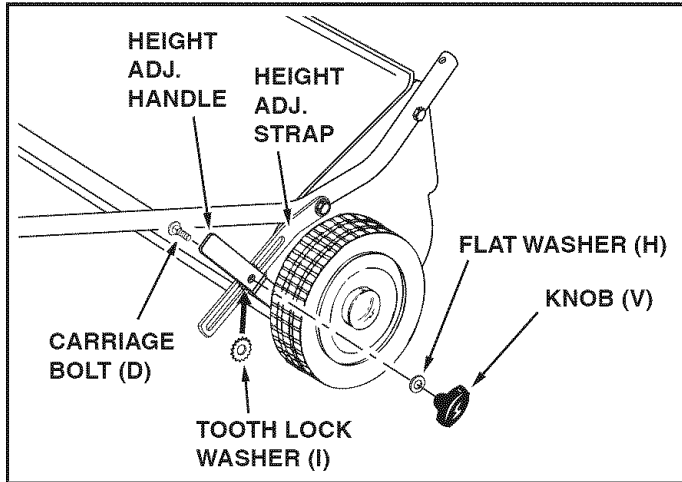

FIGURE 4
- Place the height adjustment strap to the **inside** of the height adjustment handle. Place the tooth-lock washer (I) **between** the height adjustment strap and the height adjustment handle. Insert the carriage bolt (D) through the strap, the tooth-lock washer and the handle. Assemble the flat washer (H) and the plastic knob (V) onto the end of the bolt and tighten. See figure 4.